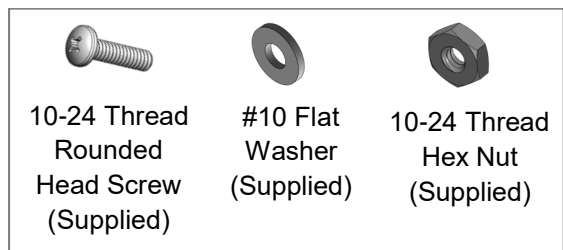

*Fig 92. Install Drilling Hex Head Screws into Bracket.*
3. Using a power drill, install the four (4) supplied Drilling Hex Head Screws to secure the bracket to the rack (Fig 92).